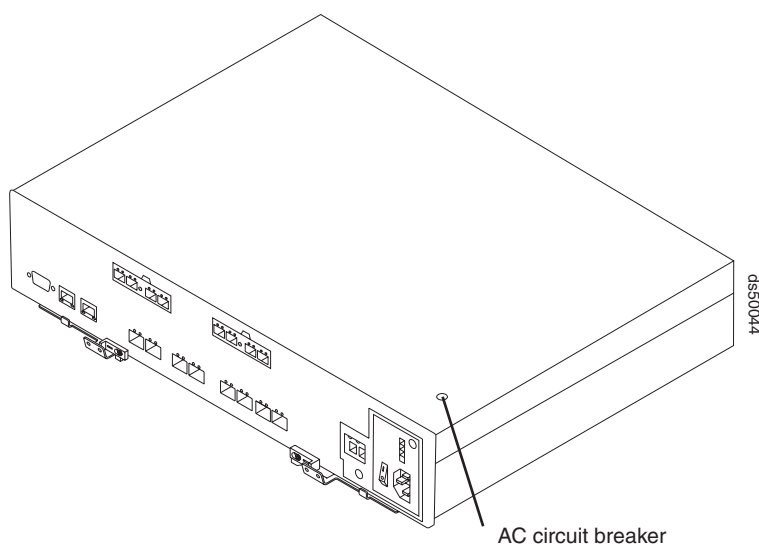

Figure 115. Circuit breaker access hole
8. Insert a nonconducting stylus through the appropriate hole in the cover of the controller and press down gently. Figure 115 shows the location of the circuit breaker access hole in the controller B cover.
Note: When controllers A and B are inserted in the controller slots, the location of the circuit breaker access hole is as follows. On controller A, the circuit breaker access hole is located on the left side on the bottom of the controller. On controller B, the circuit breaker access hole is located on the right side on the top of the controller (as shown in Figure 115).